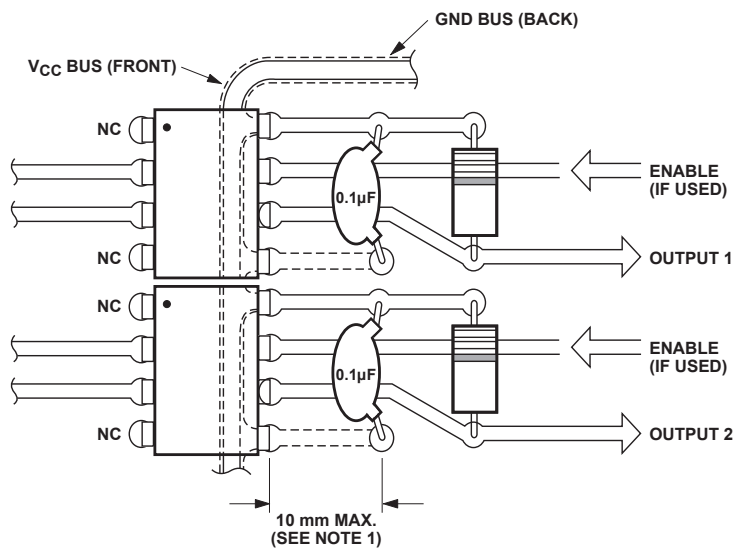

Figure 15. Recommended Printed Circuit Board Layout.
1. Bypassing of the power supply line is required, with a 0.1 μF ceramic disc capacitor adjacent to each optocoupler as illustrated in Figure 15. Total lead length between both ends of the capacitor and the isolator pins should not exceed 20 mm.